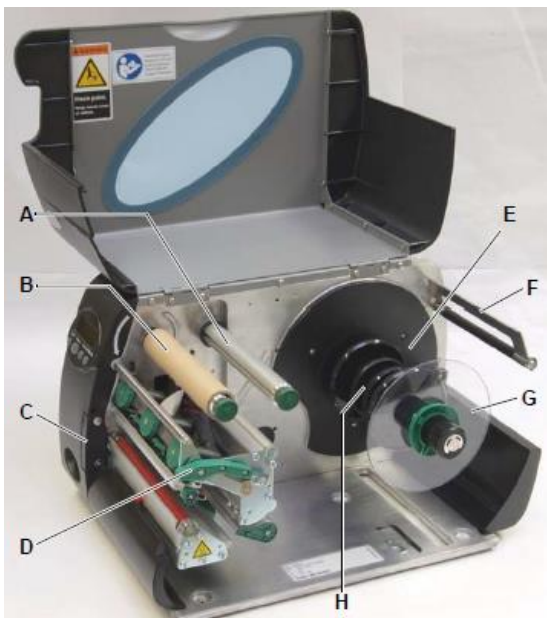

Fig.1 Printhead Pressure Lever (D)
- Remove foil and labels from the machine and release the printhead pressure lever marked D in Fig.1 below.